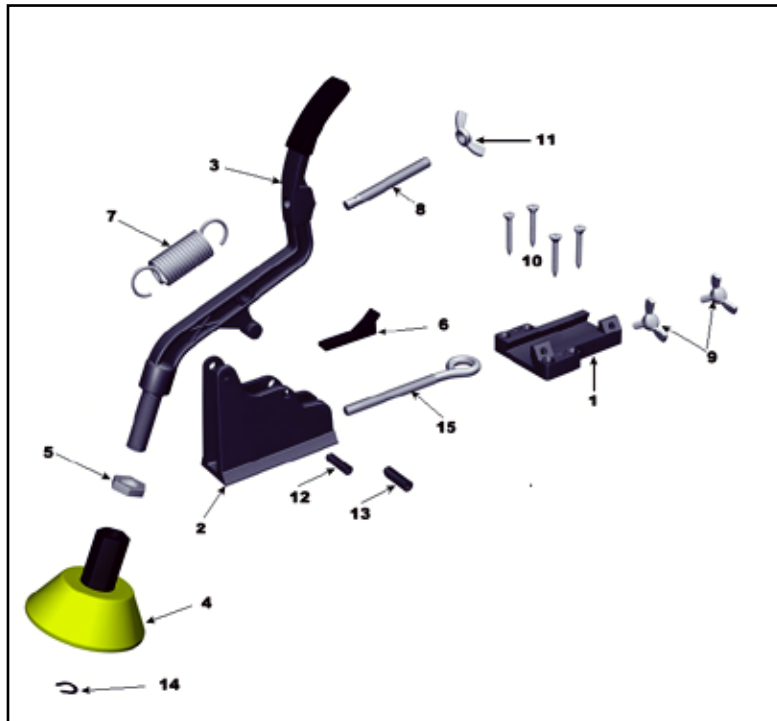
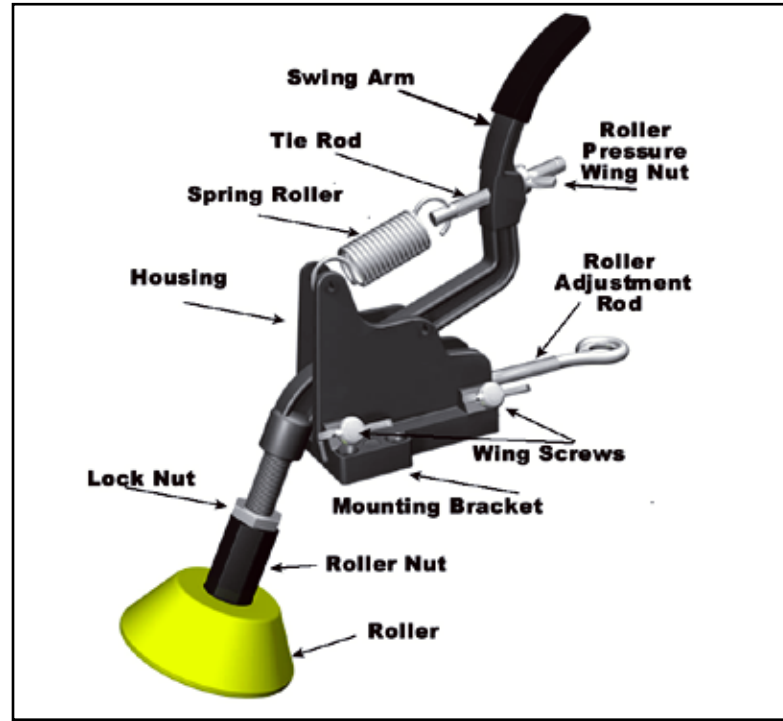

Figure 2
Figure 3
Board Mates use non-marring neoprene rubber wheels that turn clockwise only, these wheels work as anti kickback and hold down devices. The Board Mates body is made of die-cast aluminum with a spring loaded swing arm that applies pressure down on a work piece as it rolls under the anti-kickback wheels. The Board Mates system has adjustments for spring tension as well as forward and backwards body adjustment after mounting. Board Mates come in pairs which can be mounted on fences 1-1/2" to 3" high x 1" or wider. Each Board Mate consists of mounting bracket, swing arm body with spring, and an adjustable roller. *See Figures 2 and 3.*
Your BOARD MATES are partially assembled from the factory; however, some minor assembly and adjustment is required using Figure 2 and Figure 3 for reference.
To assemble your BOARD MATES , see Figures 2 and 3 for item numbers and do these steps:
1. Move the Housing (2) (Figure 2) in or out and align the rollers on the stock between the line of cut and the fence, and tighten the position (9) (Figure 2) wing screws.
2. Adjust the roller nut, the lock nut, and the Adjust Rod (15) (Figure 2) so the roller height is approximately 1/8" less than the stock thickness.
3. Turn the roller pressure Adjust Rod (15) (Figure 2) so the roller applies a firm pressure on the stock, but does not tilt the Board Mates off of the fence or T-Track.
- ALWAYS make sure the jam nut (5) (Figure 2) and the position locking thumbscrews (9w) (Figure 2) are tight, and the Board Mates are correctly adjusted.
3. Depress the swing arm (3) (Figure 2) and remove the shoe (6) (Figure 2). Clean out any foreign material that is preventing the shoe from sliding inside the housing (2) (Figure 2).